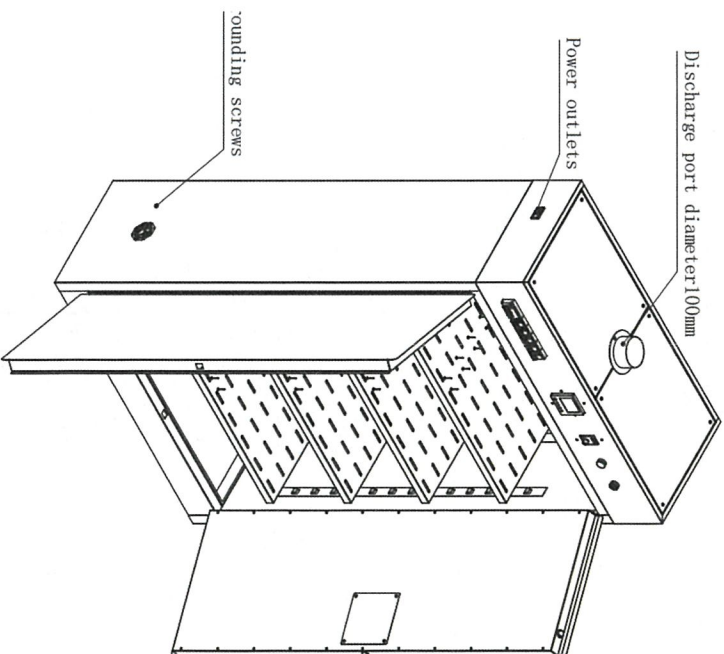

Figure 1
1. Power-on operation process: as shown in Figure 1, after the cabinet is placed in the designated position smoothly, use the compliant grounding wire to connect the grounding screw at the bottom of the left side of the cabinet to the designated grounding position of the building, use the key to open the cabinet door after the grounding is completed, take out the power cord equipped with the prefix in the cabinet and insert it into the pinzhi power socket above the left side of the cabinet, and turn on the switch of the power socket to the energized state with the red light on. Users can connect the external exhaust according to the regulations of the local regulatory department, and can use PVC pipes, nylon cloth ducts and other pipes reserved at the top of the docking cabinet as shown in Figure.